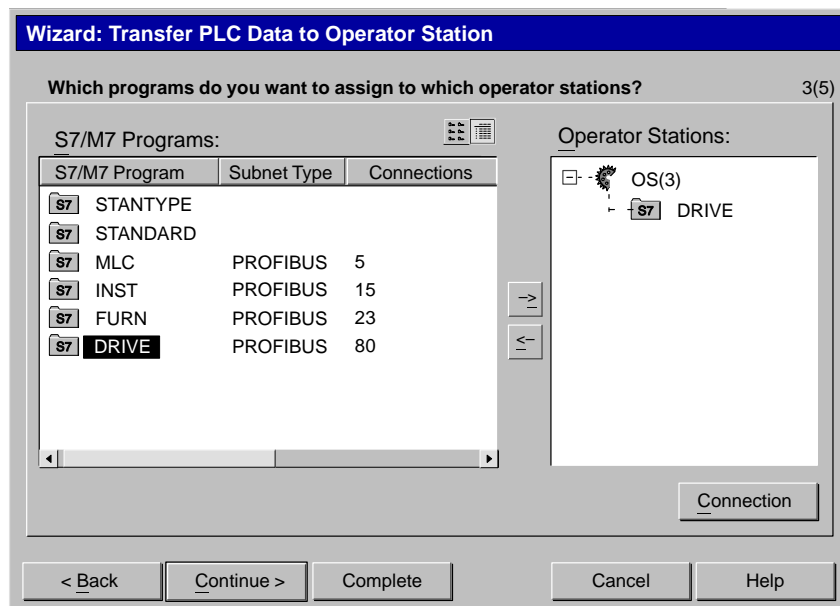

Figure 12-11 Assigning Programs to the Operator Stations
4. Click the “Continue” button and open page 3/5. Select the assignment of the programs to the operator stations here as shown in the example in Figure 12-11.